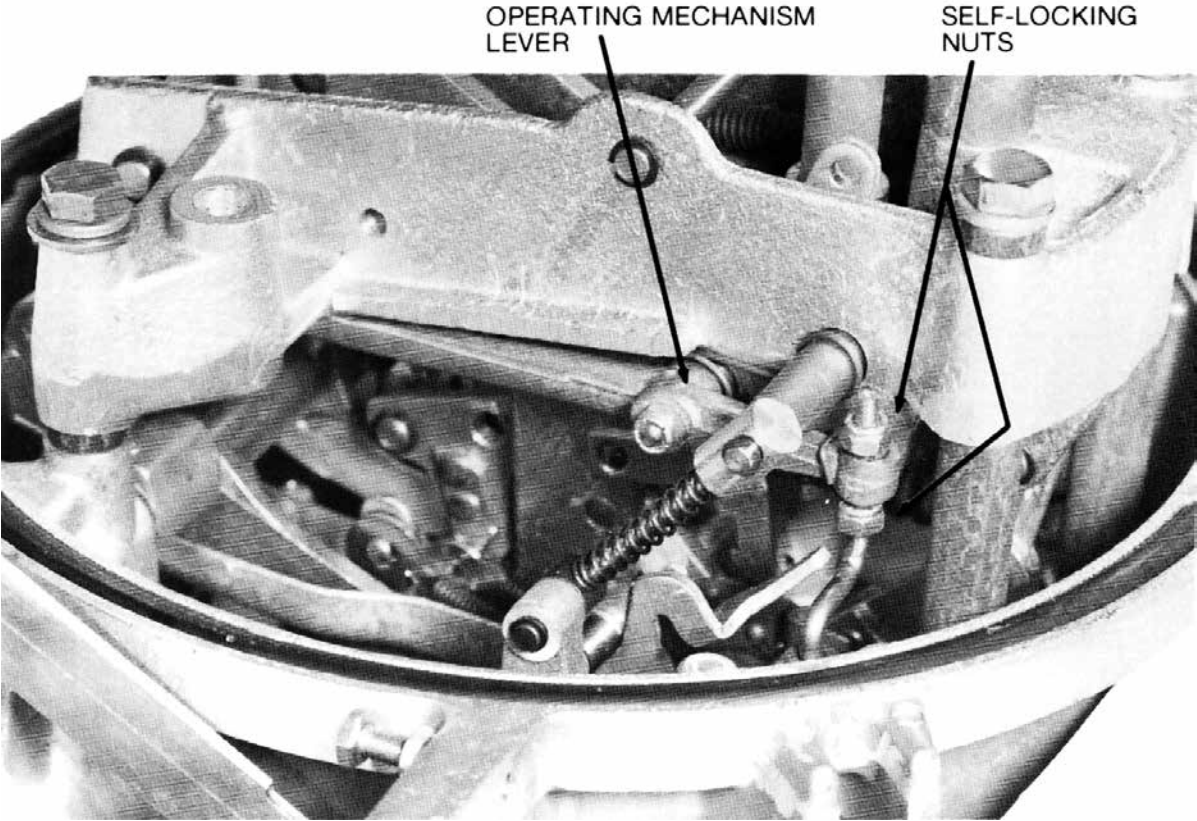

Figure 46. Adjustable lockout lever setting
- D. If tripping does not occur as described in step C, adjust selflocking nuts shown in Figure 46 to achieve correct operation. Note that the mechanism cannot operate properly if the nuts are tight against the operating mechanism lever. Always back off either nut one-half turn before testing.